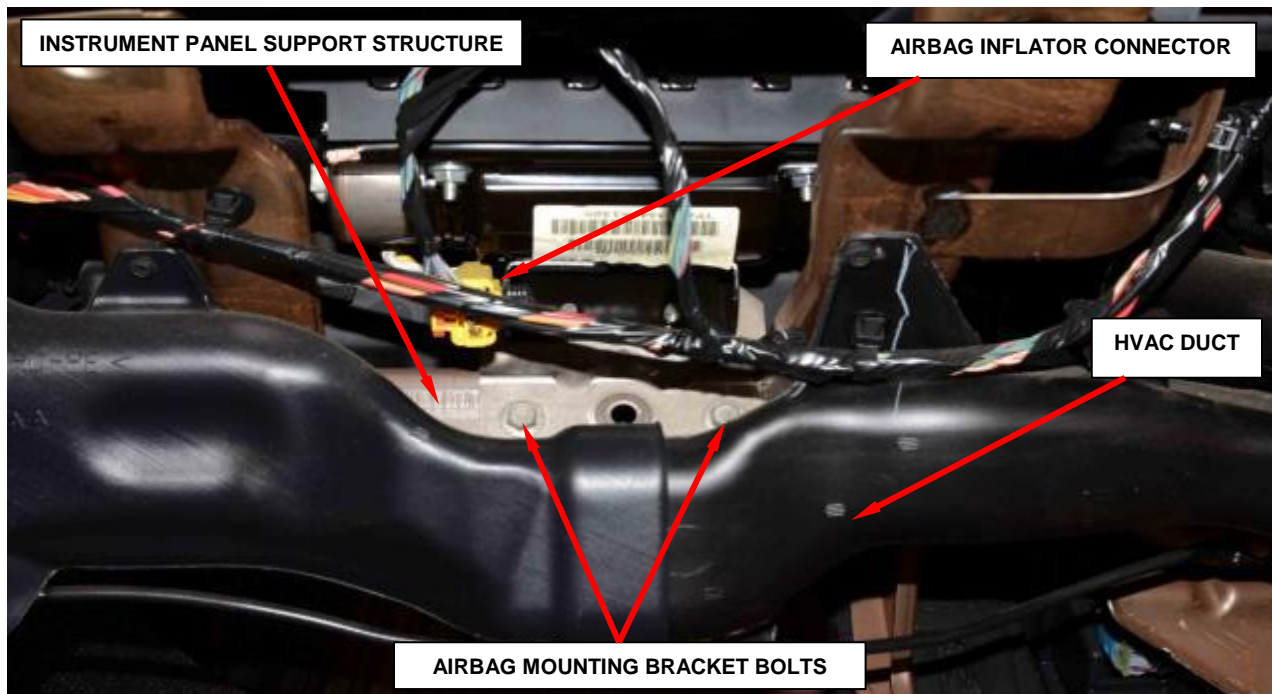

Figure 66 – Instrument Panel Mounting Bracket
- 33. Remove and save the two bolts that secure the passenger airbag bracket to the instrument panel support structure (Figure 66).
34. Disconnect the instrument panel wire harness connector from the airbag inflator pigtail connector on the right side of the airbag mounting bracket (Figures 66 and 67).